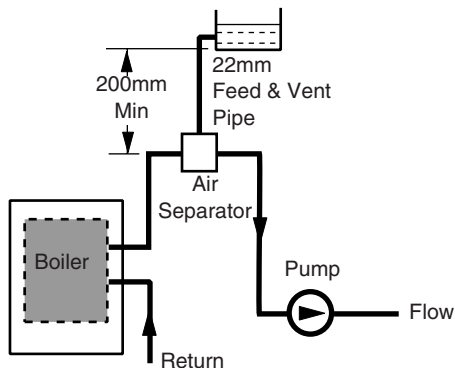

Fig. 10 Alternative Low Head Installation
**An alternative Low Head Installation (Fig. 10)**